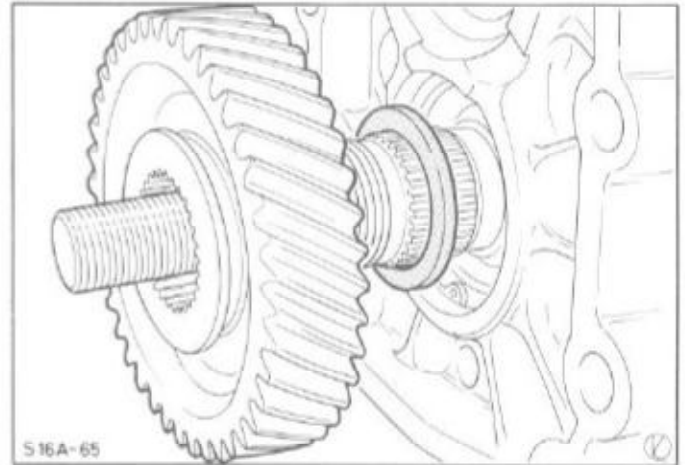
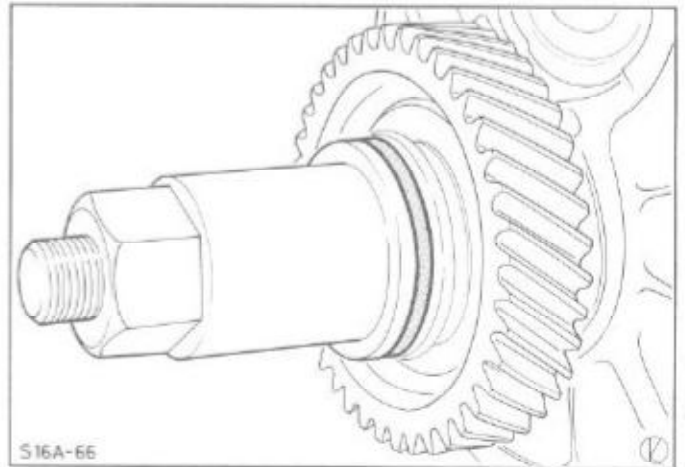

Fig.139. Fit 5th gear cog with spacer of bearing on countershaft gear cluster.
Fig.140. Press 5th gear cog onto countershaft.
48. Install Special Tool 16-033 in countershaft gear cluster, pushing shaft out to do so. Fit spacer of plain roller bearing (with inscription, if any, facing outwards) and gear, Fig.139. Bolt Special Tool securely to side of flywheel. Press 5th gear cog onto the countershaft gear cluster by means of the nut and washer of the tool, Fig.140